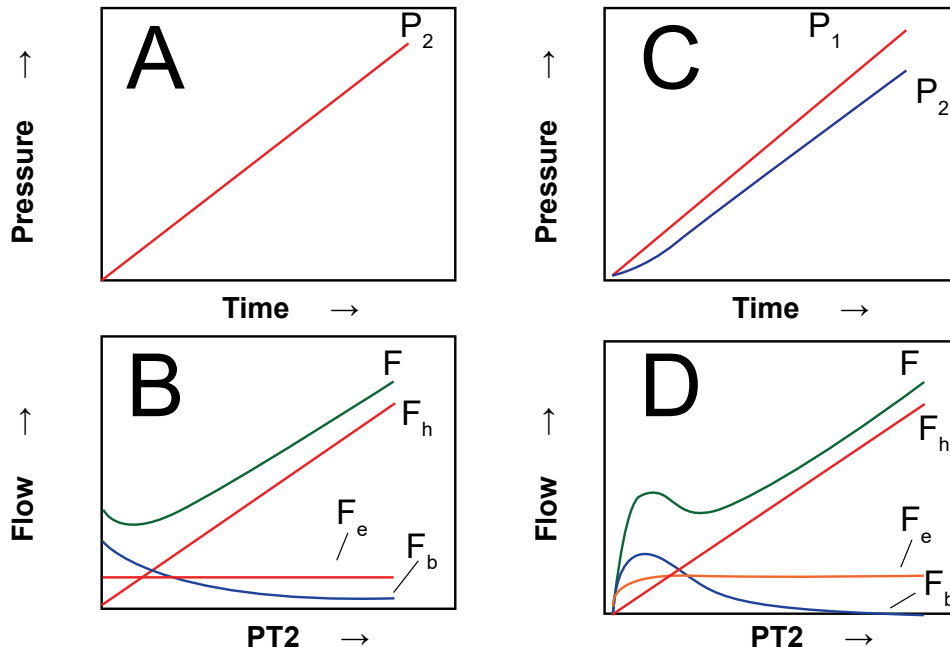

Figure 2
During normal operation of the HCFM, the inlet pressure P_1 increases linearly with time, and after a short time delay this causes P_2 to increase linearly with time to make dP_2/dt equal to a constant. This permits easier interpretation of results because it makes the elastic contribution a constant offset to F_h . The contribution of the three terms in Equation (12) is illustrated in Figure 2 for the case where P_2 increases linearly with time from time = 0 (Figure 2 (A)). The component flows (F_h , F_e , and F_b) and total flows are shown in the below.
equal to the conductance of the capillary tubes of the HCFM (KCT) is interposed between the pressure transducers that measure P1 and P2 (see Figure 1). When the full set of equations is derived (not shown) a short time lag is predicted before P2 increases linearly with time (see Figure 2 (C)). The resulting component and total flows are shown in Figure 2 (D).